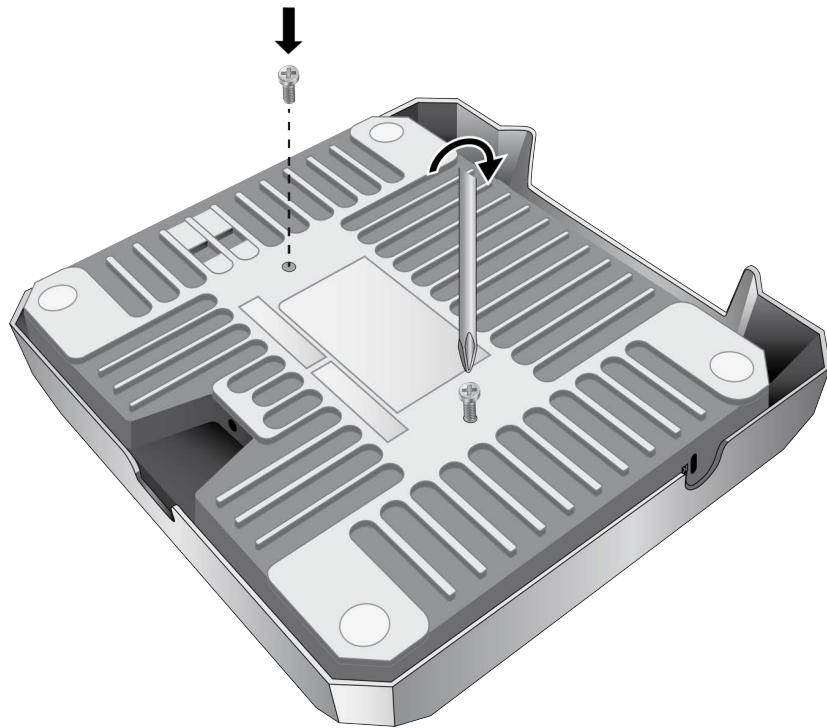

Figure 11. Attaching the Bracket Screws to the Access Point
2. Install the two screws (provided) fully into the bottom panel of the access point. See Figure 11.